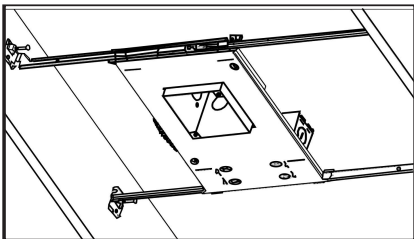
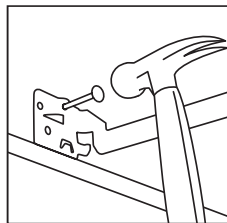

Figure 3
Figure 4
Step 1. Extend bar hangers to fit between joists. Bar hanger foot is contoured to easily align with bottom of joist (Fig 3). Position fixture by hammering Real-Nails into joists (Fig 4)